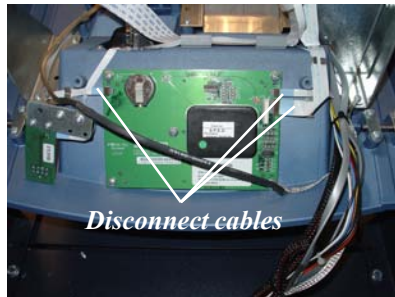

Figure 7. Disconnect cables from SPED.
7. Disconnect the two (2) function keys ribbon cables and the power/data cable from the SPED board shown in Figure 7. Disconnect the other end of the LEFT side Function keys ribbon cable from the circuit board shown in Figure 8 and remove cable. Disconnect the other end of the power/data cable from the Docking board (Figure 9) and remove the cable. The power/data and ribbon cable will be replaced with cables included in kit..